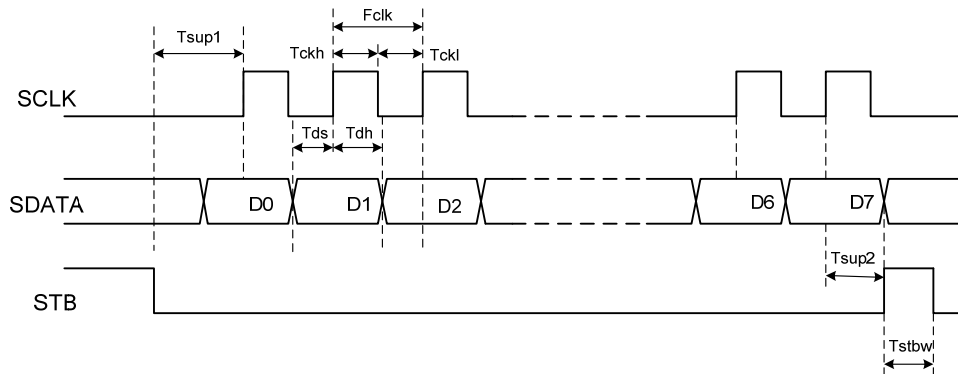

Figure 5. Serial Interface (SPI) Timing Chart
10. See Figure 5 for the definition of the timing